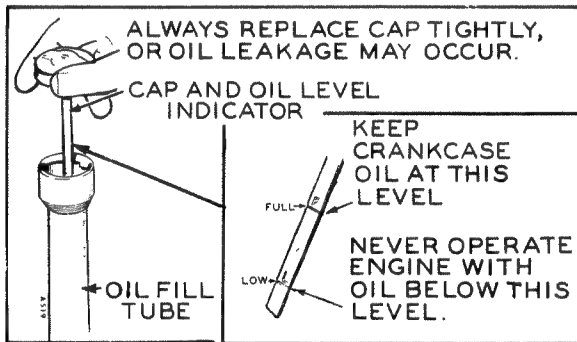

Fig. 13 Crankcase Oil Level
**CRANKCASE OIL.** - Table I gives the oil capacity. Be sure the plant is sitting level when filling. Fill to "F" (full) mark on the indicator (Fig. 13). Use an oil with the API designation DS that has passed the Series 3 Test and at least Sequence I of the Automotive Manufacturer's MS Sequence Tests. (DM oil which has passed the Automotive Manufacturer's MS Sequence Tests may also be used when ambient temperatures are lower than 30°F.) To reduce oil consumption to a normal level in the shortest time on a new or rebuilt "J" series diesel engine, use DG or DM oil (passing the MS Sequence Tests) for the first fill only (50 to 100-hours), then change to the recommended oil. Always reinstall indicator **AIR TIGHT**.
C. - OIL LEVEL. Fill to F (full) mark on indicator, figure 13.